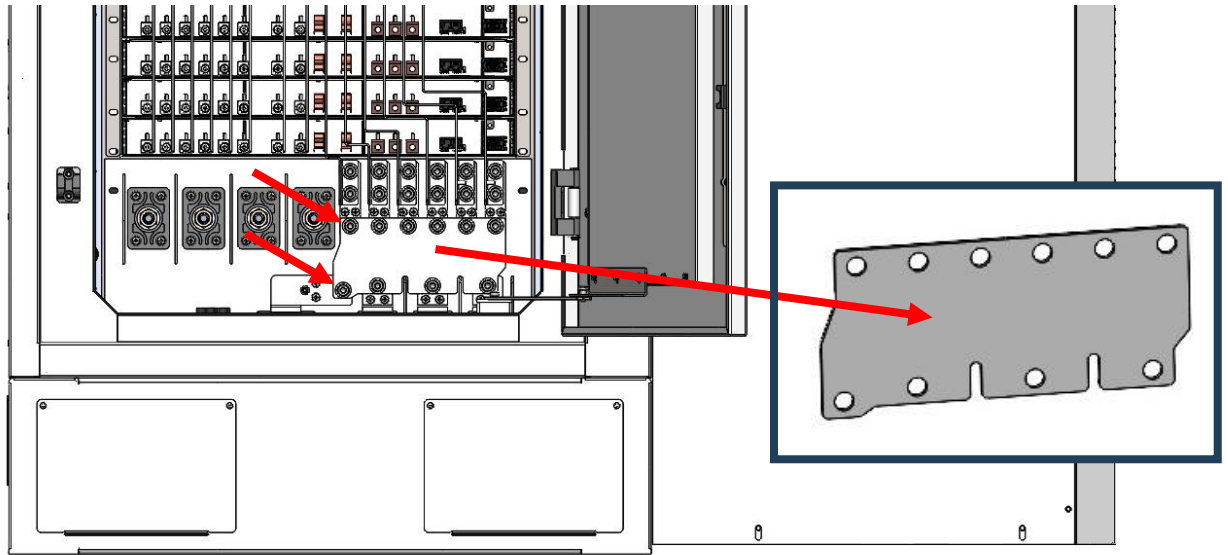

Figure 41 - M6 and M8 socket head cap screws must be removed to remove plastic spacer plate
9. Remove the six M6 and four M8 socket head cap screws that secure plastic spacer plate to Bus Bar (Figure 41), remove spacer plate from Bus Bar, and discard spacer plate.